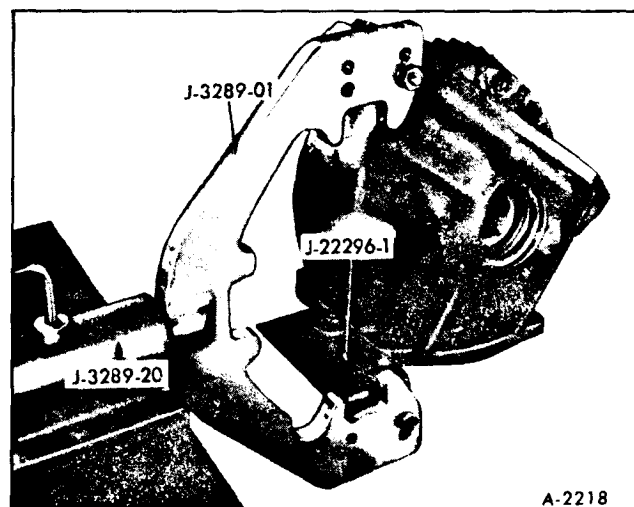

Figure 17-Final Drive Holding Fixture
1. Install adapter J-22296-1 on Differential Holding Fixture J-3289. Mount final drive in holding fixture as shown in Figure 17.